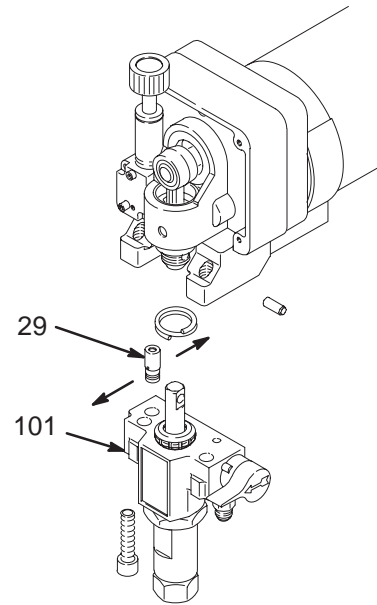

Fig. 18
NOTE: See Fig. 18 for this procedure.
2. Use a pull-twist motion to remove the transducer (29) from the pump manifold (101).
6. Align the holes in the transducer as shown by the arrows in Fig. 18.